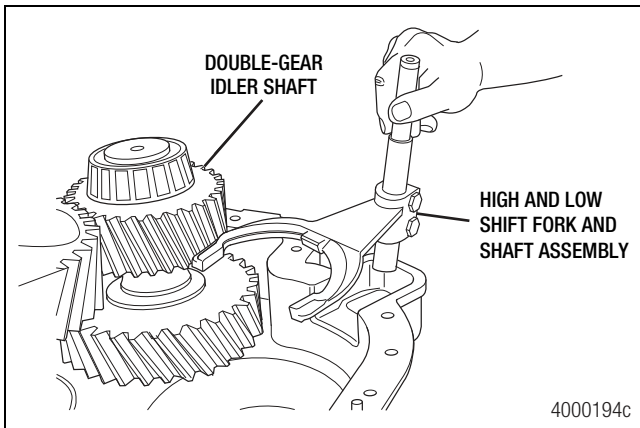

Figure 5.22
8. Remove the high and low shift fork, shift shaft, and clutch collar from the front case. Figure 5.22.